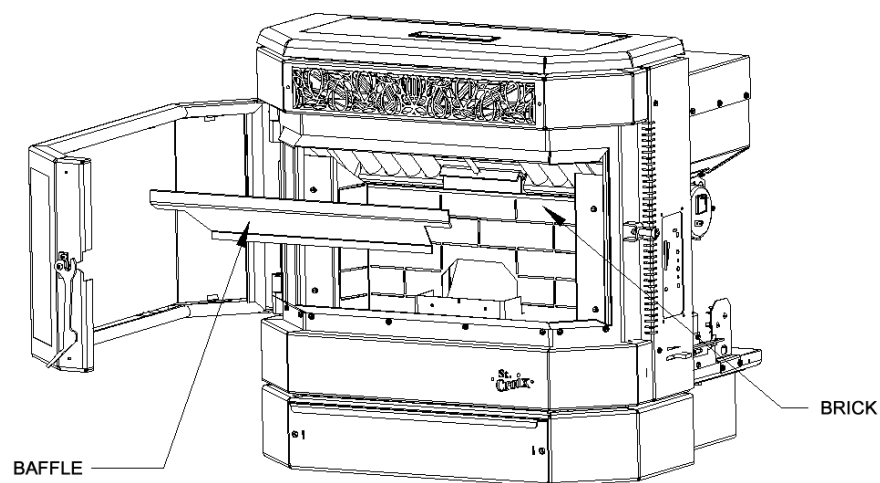

Figure 30
1. **Heat Exchange Baffle.** Remove the baffle and clean the ashes that accumulate on a regular basis. Once a month or sooner, depending on the quality of fuel being used (See Figure 30)